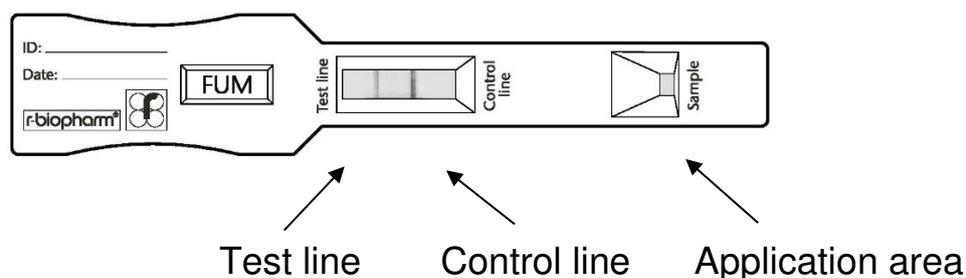

Fig. 1: RIDA®QUICK Fumonisin RQS ECO test strip.
- Apply 100 μ l of the dilution I on the application area of the test strip (see fig. 1)
- Apply 100 μ l of the dilution II on the application area of the test strip (see fig. 1)
- Apply 100 μ l of dilution I or dilution II (see chapter 8. Sample preparation) on the application area of the test strip (see Fig. 1).
The left line in the reaction area is the test band (test line, see fig. 1). Its appearance and intensity depends on the fumonisin concentration of the sample. The sample is contaminated with fumonisin, if the control band (control line) is visible and the test band (test line) is also visible.